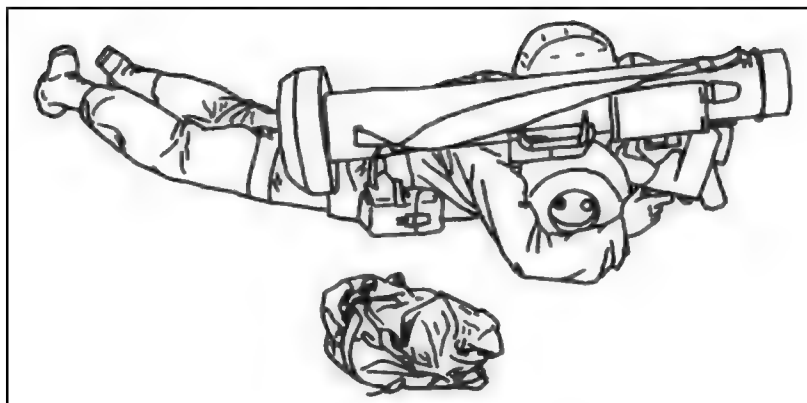

Figure 2-31. Prone supported firing position.
- (1) Ensure reaching the right handgrip switches is possible and easy to operate.
- (2) Ensure the Javelin is supported by the forward end cap and is not resting on the shoulder (Figure 2-31).